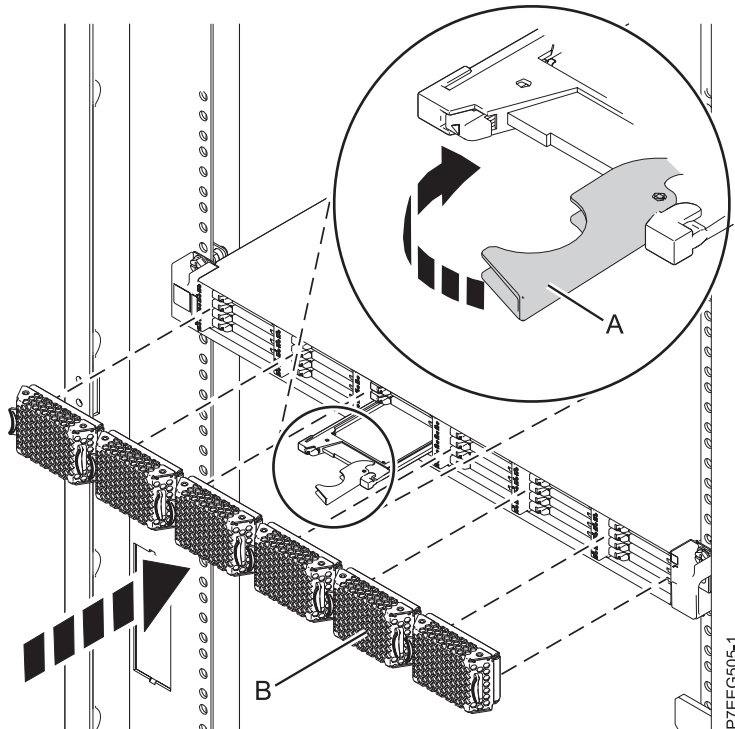

Figure 3. Installing a solid-state drive in the 58/88 PCIe storage enclosure
1. With the handle in the unlocked position, align the solid-state drive with the guide rails in the enclosure. See Figure 3 on page 8.